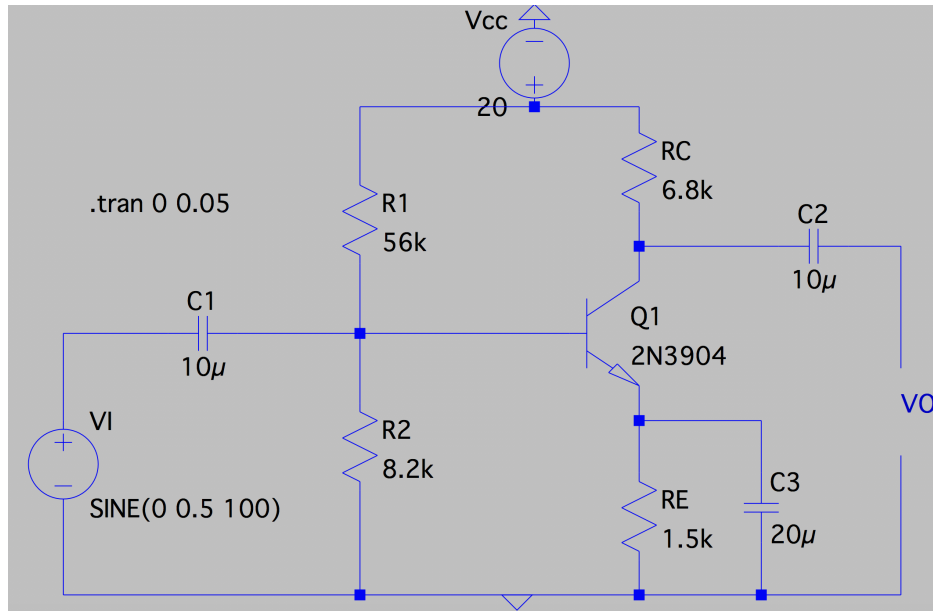

Figure 1: Voltage divider amplifier.
Your task is to design, build and verify the operation of a printed circuit board. The circuit you are going to implement is a BJT voltage divider amplifier, shown in Figure 1. You may replace the  $20\ \mu\text{F}$  capacitor with a  $10\ \mu\text{F}$  capacitor.
1. Use LTSpice to simulate the circuit from Figure 1. This will be used to verify the operation of your PCB.